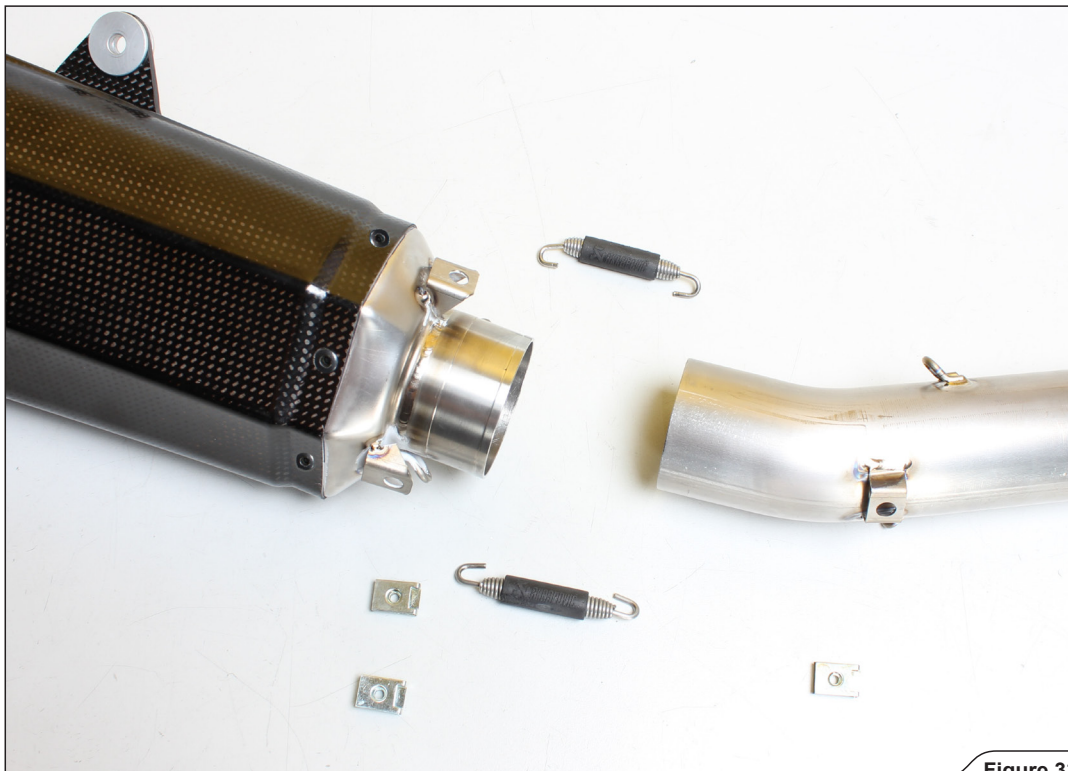

Figure 33
- Slide the link-pipe into the muffler, attach the springs and mount the press-on nuts from Akrapovič installation kit onto the link pipe's and muffler's brackets, as shown (Figure 33, 34).